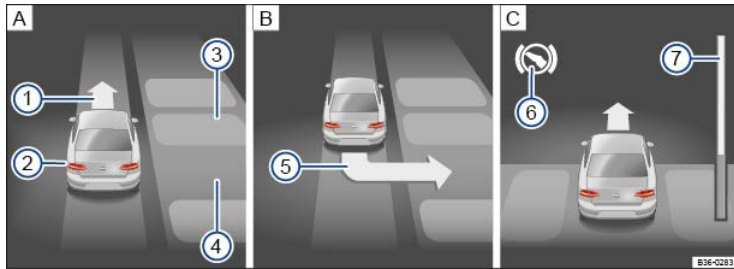

Fig. 132 In the instrument cluster display: Parking perpendicular to the road.
- Drive into the parking space when the prompt to park appears ⇒ **Fig. 132**.
When the prompt to park appears ⇒ **Fig. 132**, select a different parking mode by pressing the **P** button ⇒ **Fig. 130** again. After all relevant parking modes have been displayed, Park Assist switches off automatically. The originally recommended parking mode is displayed again if you press the **P** button ⇒ **Fig. 130** another time.
Key to ⇒ **Fig. 132** :